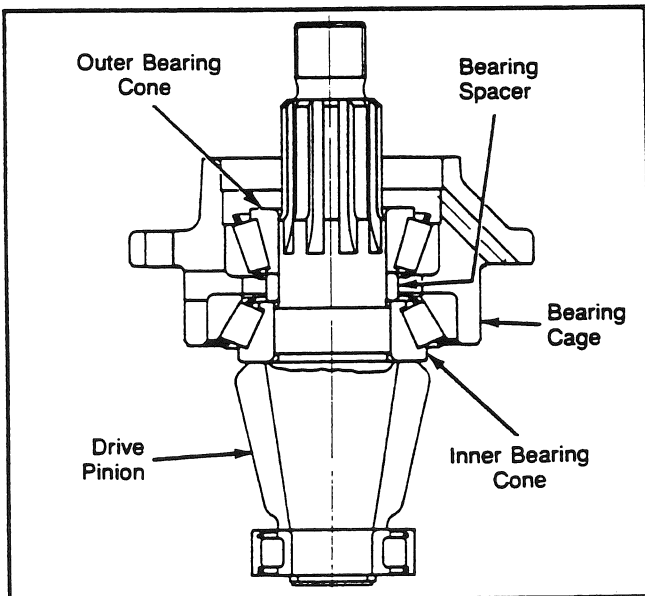

Fig. 35
9. Lubricate the drive pinion bearing cups and cones. Install the drive pinion into the bearing cage. Install the spacer on the pinion shaft against the inner bearing cone. Install the outer bearing cone on the pinion shaft against the spacer (see Fig. 35). Do not install the oil seal. Continue the procedure by adjusting the drive pinion bearing preload.